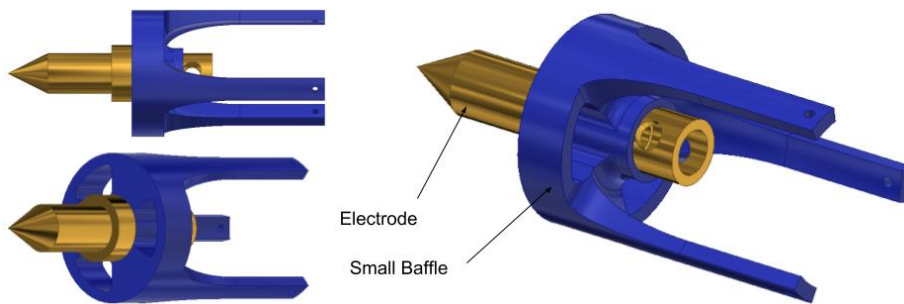

Figure 12
- Insert an electrode into the small inner baffle. The large ring section (Largest diameter section) of the electrode must be towards the front of the inner baffle as shown (Fig 12).